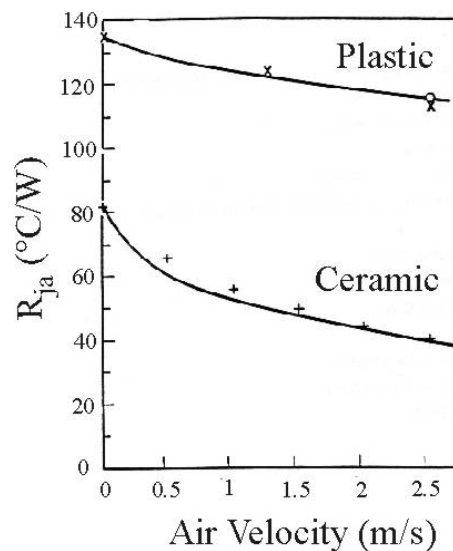

Figure 1 Thermal resistance of 16-pin DIP package as a function of air velocity from fan (3)
- b. What is the junction temperature  $T_j$  for a chip dissipating 500mW when packaged in a plastic DIP16 without active cooling? (Notes: use data in Figure 1, assume ambient temperature = 20°C)
- c. What upgrades to the above packaging solution would be needed to keep the junction temperature  $T_j$  of a chip dissipating 2W below 100°C? (3)
- d. Why does a ceramic DIP have a lower thermal resistance than a plastic DIP? (2)
- e. Explain the physical factors that govern the data in Figure 1 (6)
- a. Describe the construction of a six-layer glass-epoxy printed circuit board (PCB) with through, blind and buried vias. (8)
- b. The internal layers of a four-layer FR4 PCB are used for power and ground planes, whilst the surface layers are used for signals. State the equation for the impedance for a microstrip line and use it to calculate the impedance of a 1mm wide track on a surface layer. ( $\epsilon_{\text{eff}} = 3.5$ ). Comment on the calculated value. (4)
- c. What is the impedance if the track is realised as a 100 $\mu\text{m}$ -wide stripline on a polyimide microvia substrate? ( $\epsilon_{\text{eff}} = 4.5$ ) (4)
- d. Discuss the measures that are taken to minimise cross talk between signals in an electronic system. (4)
- a. Describe the three principal methods used to make electrical connections to IC die and their relative advantages and disadvantages. (6)
- b. Why should impedances be controlled in a high-speed signal path? What are the principal sources of parasitic impedance in an IC package? (4)
- c. Explain the origins of simultaneous switching noise and crosstalk. Describe how these two issues in electromagnetic interference may be minimised by appropriate packaging design. (4)